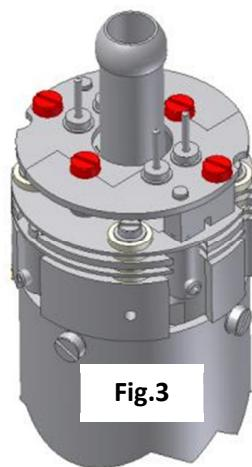

Fig.3
4. Remove the four M2 x4 pan head screws highlighted in red holding the filament plate in place, see Fig.3.